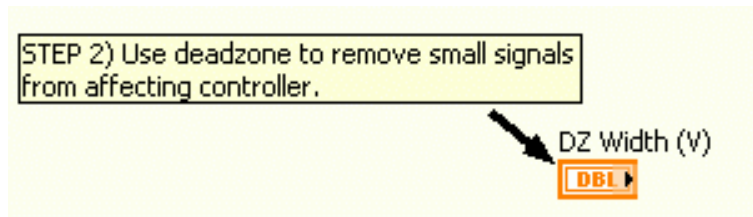

Figure 2.2: Wire ZOH output to dead zone
4. The Servo Command (V) control is directly connected to the D/A#0 that drives the PWM amplifier connected to the servo. Vary the Servo Command (V) knob in the VI and examine its affect on the actual servo position. Describe how the voltage affect the position of the servo clamps.
6. Open the block diagram and find the section shown in Figure 2.2, below. Connect the output of the zero-order hold signal to a dead zone. Use DZ Width (V) control to specify the width of the dead zone function. Attach a copy of your code.